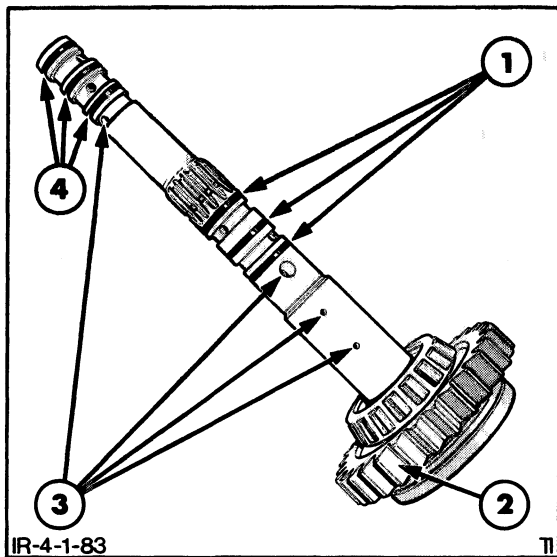

FIGURE 4-81
1. Thoroughly clean the rear input shaft with a suitable solvent and allow to dry. Use compressed air to clean out the oil passages, Figure 4-81. Do not spin the bearing with compressed air.